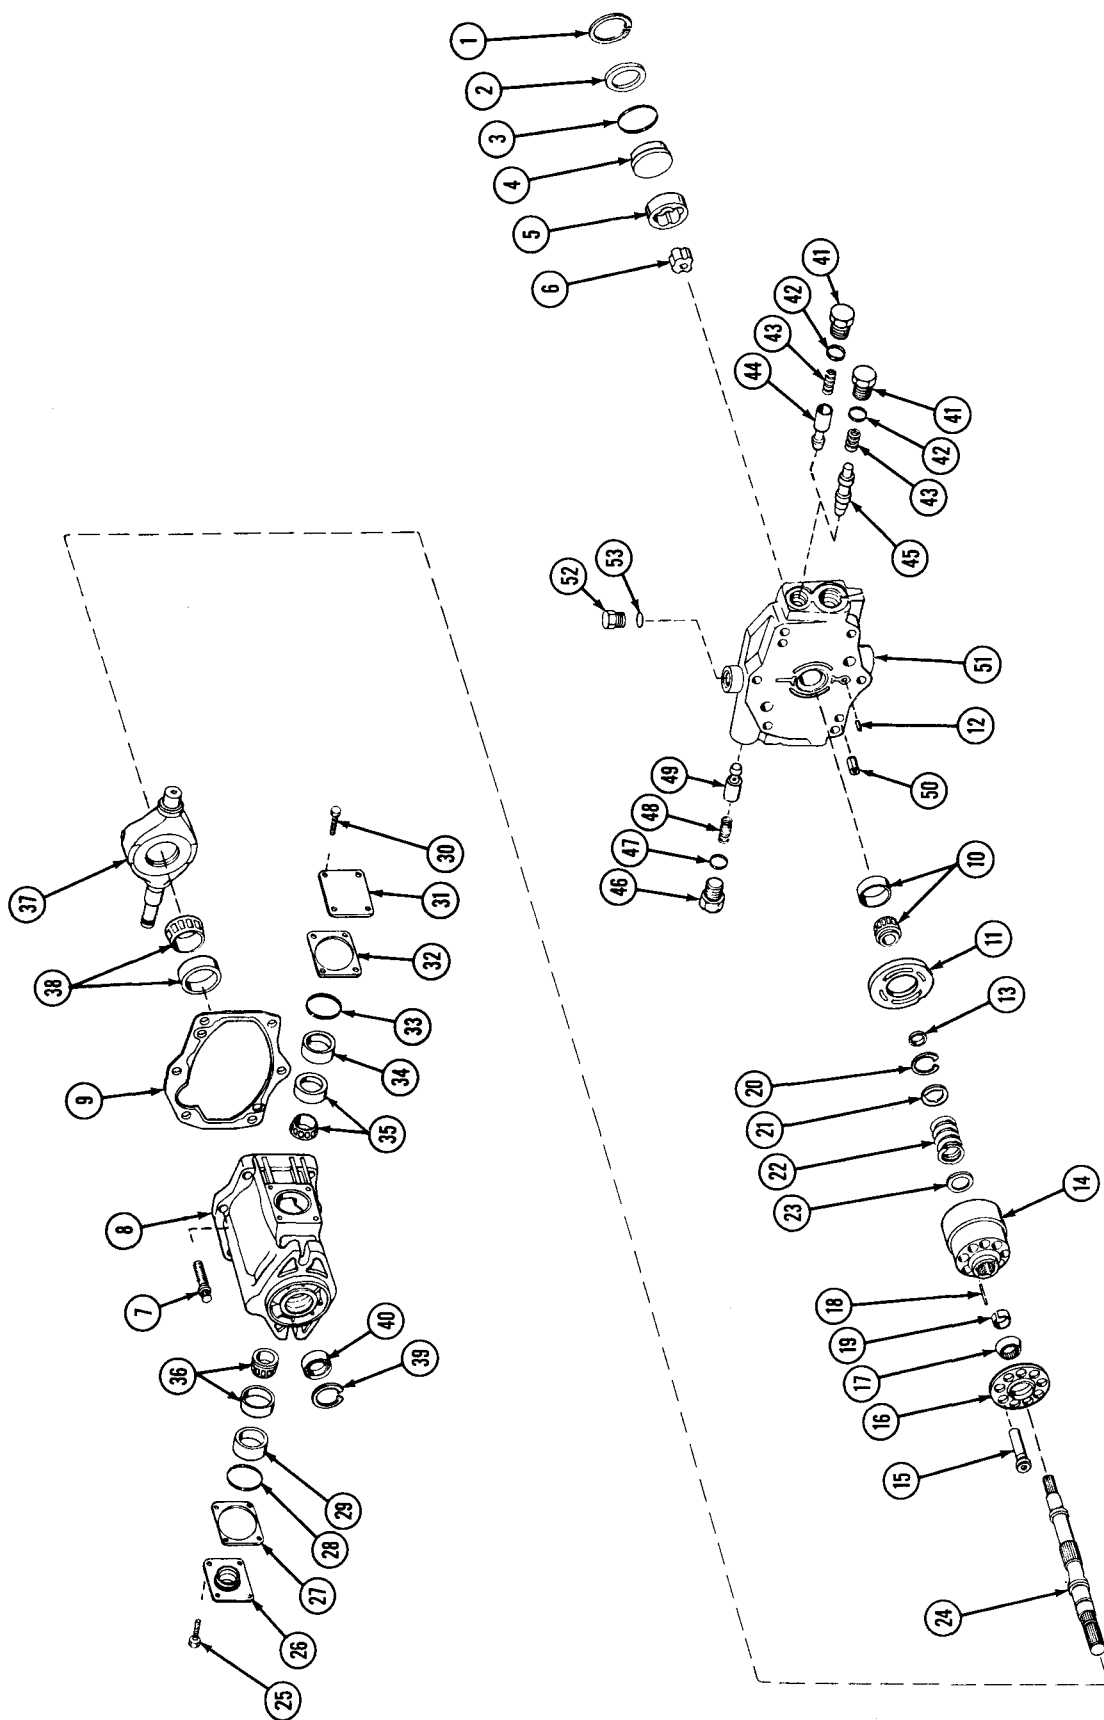

Figure 10. Exploded View of Transmission Pump.
Periodic maintenance of the pump will generally not require disassembly to the extent described here. In general, disassembly is accomplished in the item number sequence shown in Figure 10. Special procedures are included in the following steps:
1. Remove retaining ring (1) from valve block (51). See Figure 10.
2. Remove spacer (2), "O" ring (3), and cover (4) from valve block (51). Refer to Figure 10 for part location.
3. Remove the inner and outer rotors (6) and (5), and place on clean Kraft paper.